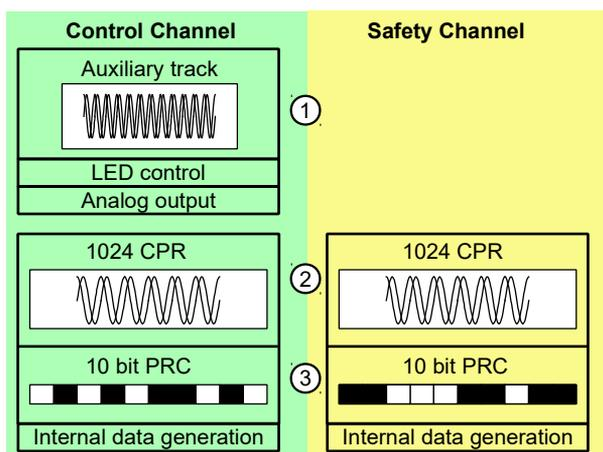

Figure 12: Photodiode tracks of iC-RZ
Figure 12 shows the different photodiode tracks of iC-RZ. Both channels have incremental photodiodes for internal interpolation ② and random track photodiodes for the absolute position ③.
get a secured position value. A selection signal for the leading or trailing photodiodes is generated by separate photodiodes scanning the 1024 PPR track (② in Figure 12).